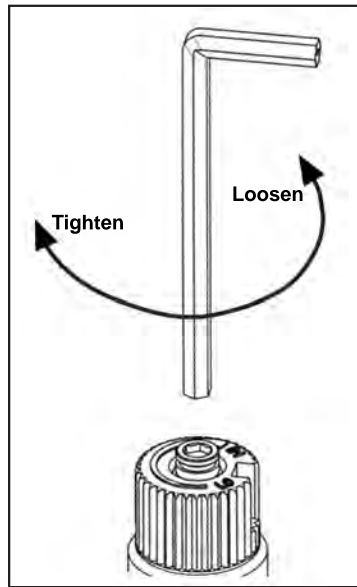

Figure 17: Removing valve screw.
- b) Insert a $\frac{5}{32}$ " or 4 mm Allen wrench into the hexagonal key-way of the screw (see Figure 17), rotate it counter-clockwise until it is free and extract it.
- e) Using the Allen wrench as shown in Figure 17, rotate the screw clockwise until a torque of 9 inch lbs. **WARNING!** Do not over tighten the screw. It is recommended that you grip the wrench by the short side.